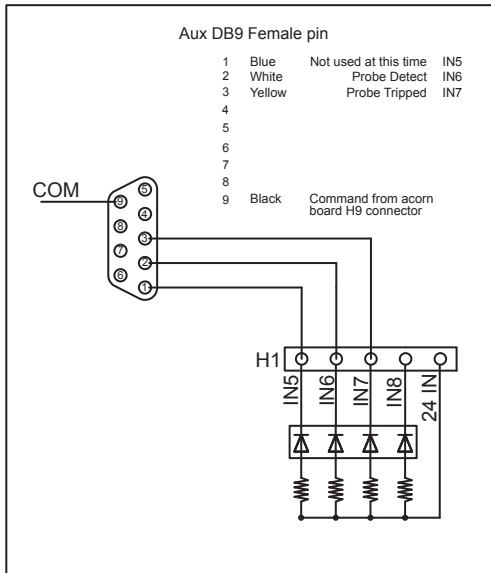

FIGURE 29
E. See Figure 29 for the DB9 connector pin-out schematic.